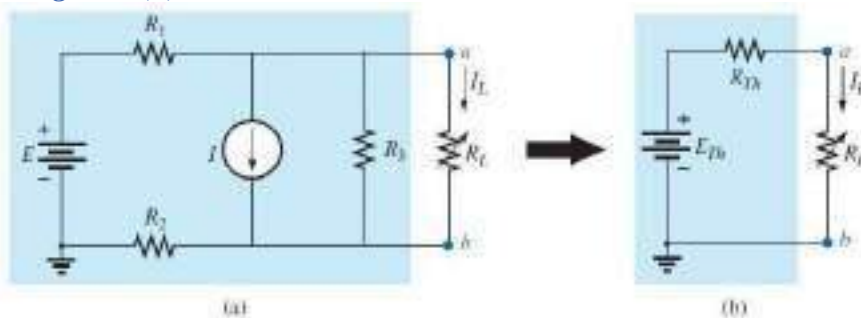

FIG. 9.25
To demonstrate the power of the theorem, consider the fairly complex network of Fig. 9.25(a) with its two sources and series-parallel connections.
The theorem states that the entire network inside the blue shaded area can be replaced by one voltage source and one resistor as shown in Fig. 9.25(b). If the replacement is done properly, the voltage across, and the current through, the resistor RL will be the same for each network. The value of RL can be changed to any
1. Remove that portion of the network where the Thévenin equivalent circuit is found. In Fig. 9.25(a), this requires that the load resistor R_L be temporarily removed from the network.
5. Draw the Thévenin equivalent circuit with the portion of the circuit previously removed replaced between the terminals of the equivalent circuit. This step is indicated by the placement of the resistor R_L between the terminals of the Thévenin equivalent circuit as shown in Fig. 9.25(b).